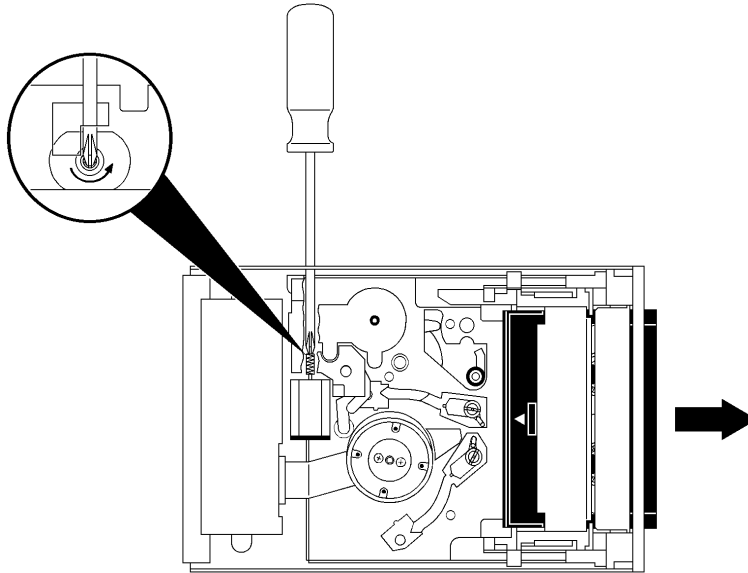

Figure 15. Turning the Motor Worm Wheel to Release the Cartridge
5. Insert a 1.5 mm hexagonal key or a small Phillips screwdriver into the aperture on the right side of the drive looking from rear. This gives you access to the motor worm wheel, as shown in Figure 15. Turn the hexagonal key or small screwdriver counter-clockwise to release the cartridge.